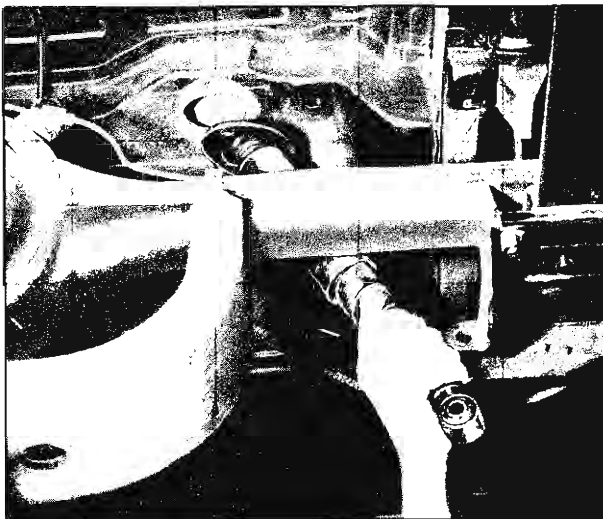

Fig. 19—Removing Shock Absorber
3. Remove shock absorber upper mounting bracket bolts and withdraw shock absorber and bracket (fig. 19).